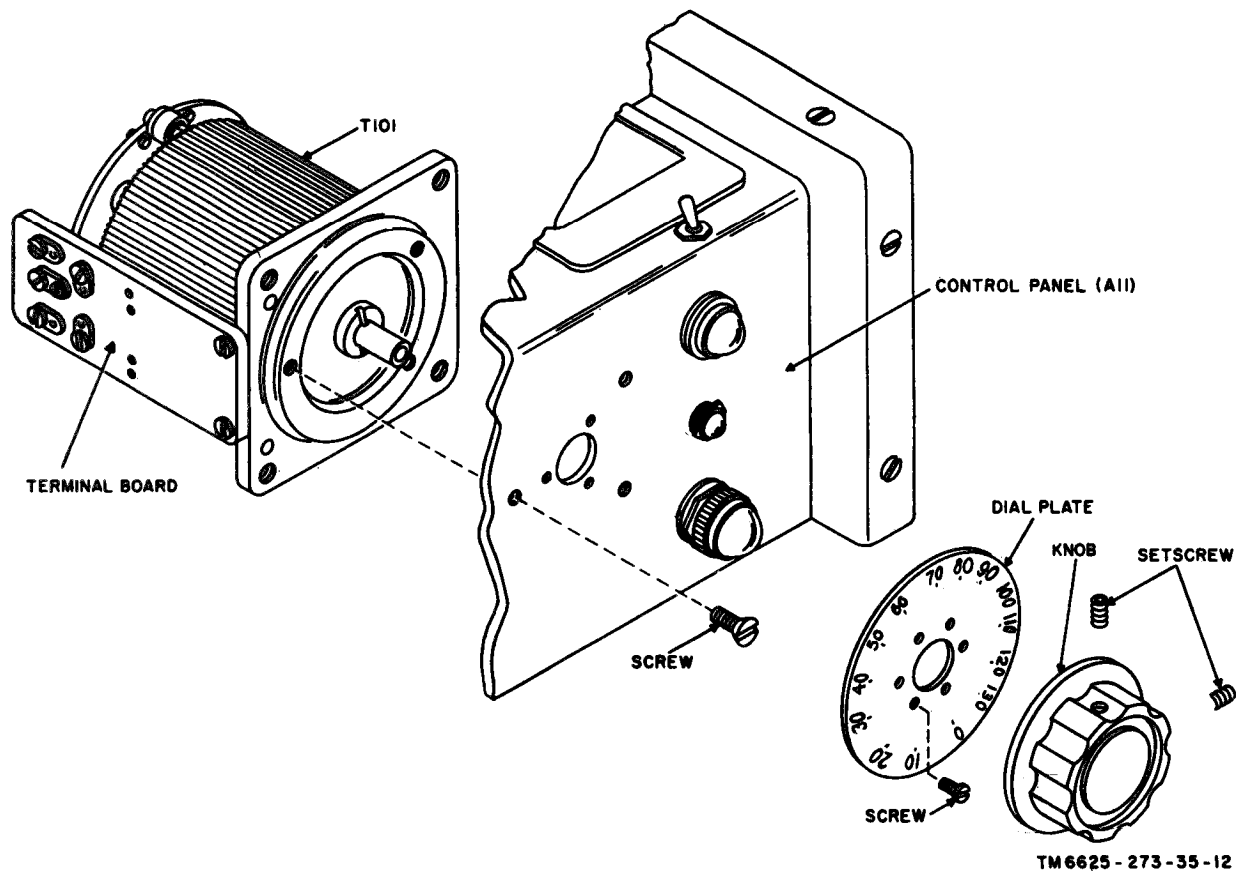

Figure 8. Removal of voltage control T101—exploded view.
- (6) If the shorting bars do not touch the output terminals, bend the shorting bars as necessary until contact is made.
17. Removal and Replacement of Voltage Control (fig. 8)
- (2) Hold the secure it with the screws (fig. 8).
- (3) Place the dial plate on the control panel and secure it with the screws.
- (4) Turn the shaft of the voltage control fully counterclockwise.
- (5) Install the knob on the shaft with the pointer at 0; tighten the setscrews.
- (6) Connect the wire leads to the terminal board (fig. 8 and 18).